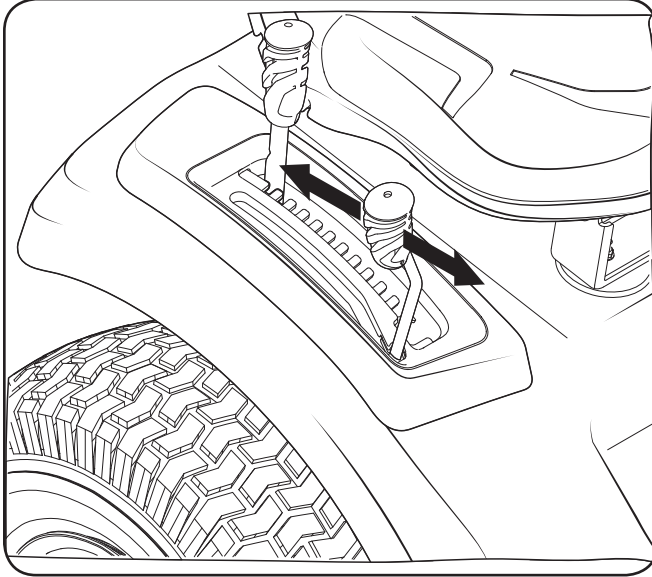

Figure 5-4
2. Push the PTO handle forward into the engaged (ON) position. See Figure 5-4.